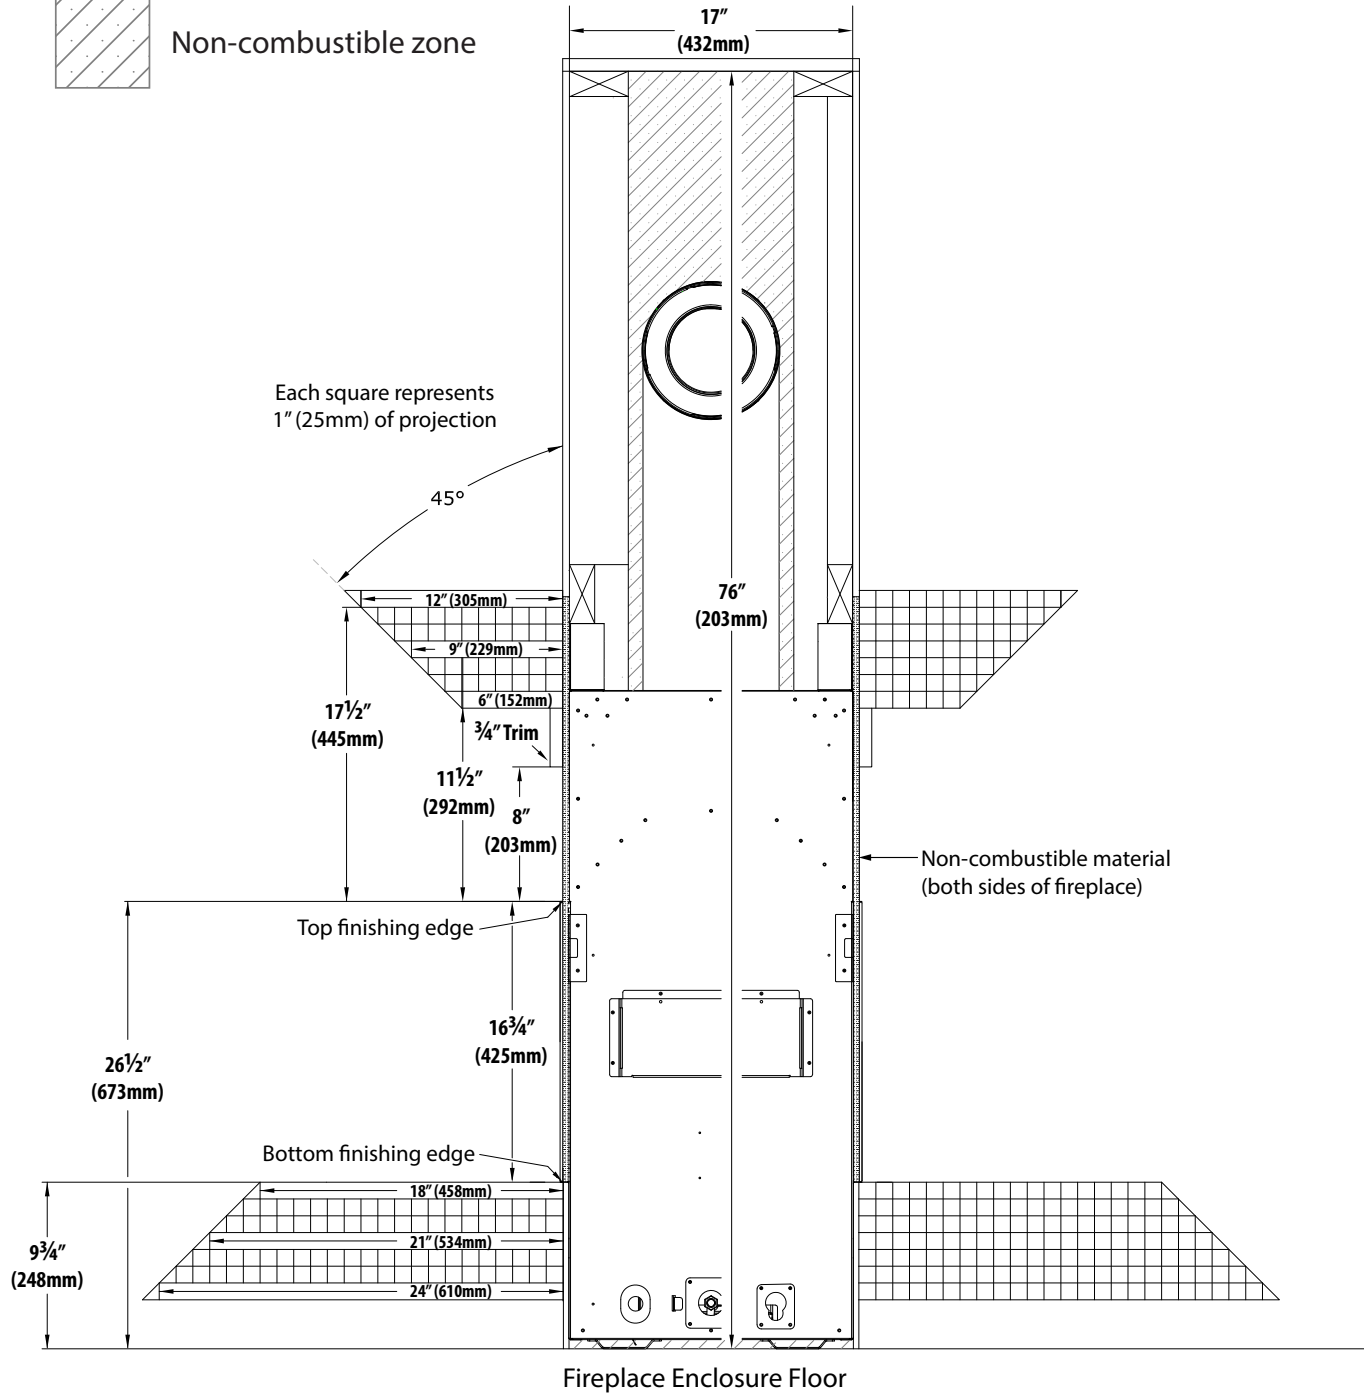

FIGURE 4.1 Standard Installation Combustible Mantel and Hearth - No Surround
- **Combustible Mantel Projections:** As referenced in Figure 4.1 (page 35), the 3/4" (19mm) trim can start at 8" (203mm) above the top finishing edge with a 6" (152mm) mantel starting at 11-1/2" (292mm) above the top finishing edge. Mantel projections can increase 1" (25mm) of depth for every 1" (25mm) of height starting at the 6" (152mm) mantel.
- **Combustible Hearth:** As referenced in Figure 4.1 (page 35), the bottom of the bottom finishing edge can be flush with the top of the hearth if not using any optional surround. *If installing an optional surround*, refer to Measurement 'B' in Section 4.4 Finishing Guidelines for Optional Surrounds on page 42.